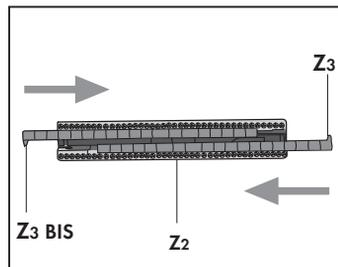

Fig. 18
**FITTING THE STIFF INSERTS (Z3 AND Z3 BIS) ONTO THE BRISTLED FRAME (Z2) (Fig. 18)**